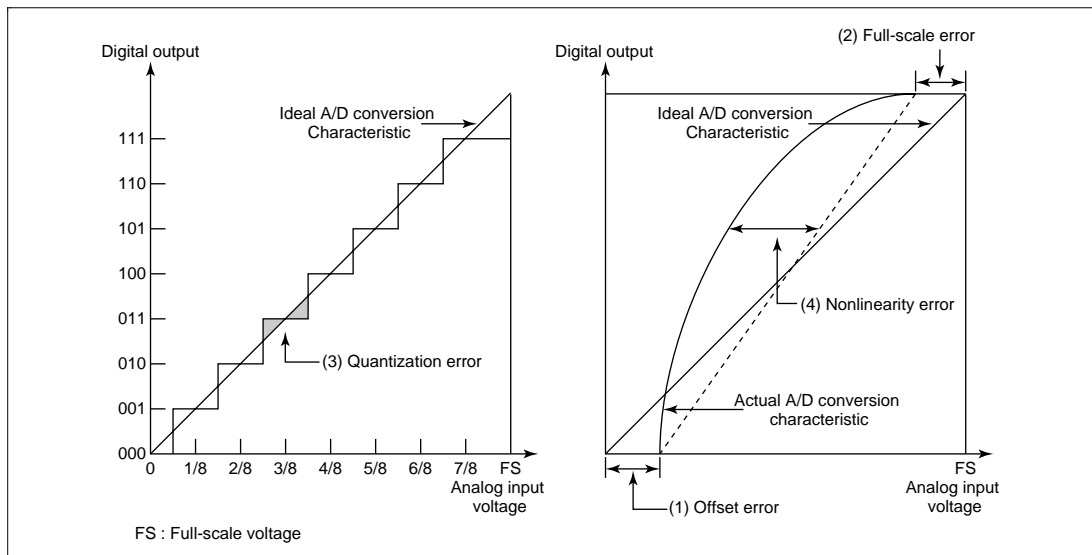

Figure 16.7 A/D Conversion Precision Definitions
- (1) Offset error
- (2) Full-scale error
- (3) Quantization error
- (4) Nonlinearity error
The above four kinds of error are described below with reference to figure 16.7. For the sake of clarity, this figure shows 3-bit medium-speed A/D conversion rather than 10-bit medium-speed A/D conversion. Offset error (see figure 16.7 (1)) is the deviation between the actual A/D conversion characteristic and the ideal A/D conversion characteristic when the digital output value changes from the minimum value (zero voltage) of 0000000000 (000 in the figure) to 0000000001 (001 in the figure). Full-scale error (see figure 16.7 (2)) is the deviation between the actual A/D conversion characteristic and the ideal A/D conversion characteristic when the digital output value changes from 1111111110 (110 in the figure) to the maximum value (full-scale voltage) of 1111111111 (111 in the figure). Quantization error is the deviation inherent in the medium-speed A/D converter, given by $1/2$ LSB (see figure 16.7 (3)). Nonlinearity error is the deviation between the actual A/D conversion characteristic and the ideal A/D conversion characteristic from zero voltage to full-scale voltage (see figure 16.7 (4)). This does not include offset error, full-scale error, and quantization error.